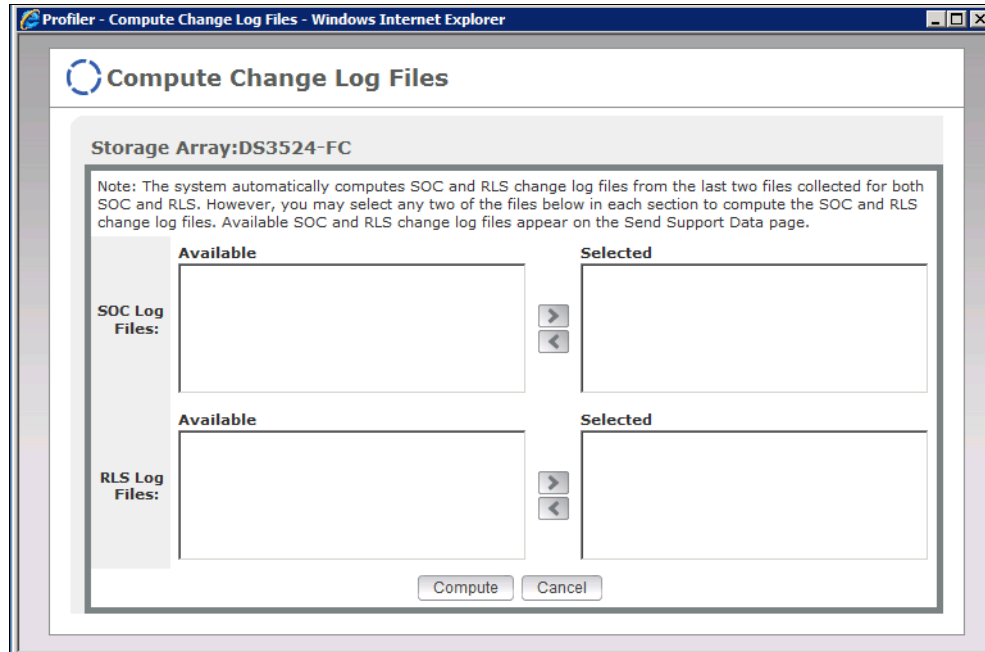

Figure 14-28 Profiler - Compute Change Log Files
4. Click the fourth and final icon on the extreme right hand side to open the Profiler - Compute Change Log Files window as shown in Figure 14-28 on page 347.